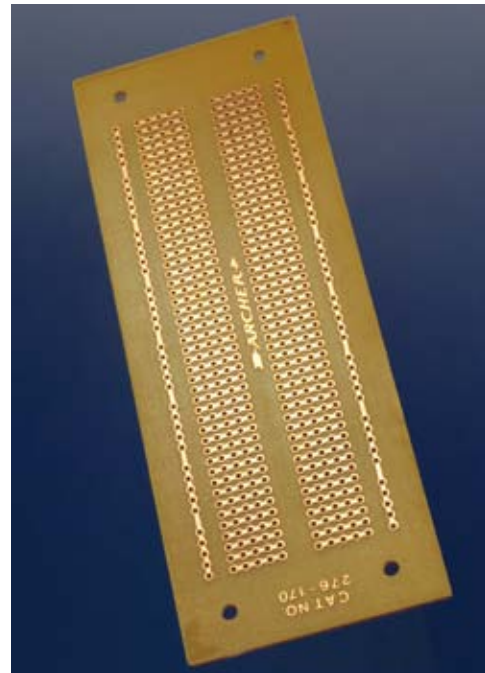

Figure 3-72. Perforated board etched with copper in variants of a breadboard layout. This example is appropriate for Experiment 15.
2. Breadboard-style wiring. Use perforated board that is printed with copper traces in exactly the same pattern as the conductors inside a breadboard. Once your circuit works on the breadboard, you move the components over to the perfboard one by one, maintaining their exact same positions relative to each other. You solder the “legs” of the components to the copper traces, which complete the circuit. Then you trim off the surplus wire. The advantage of this procedure is that it's quick, requires very little planning, and minimizes the possibility for errors. The disadvantage is that it tends to waste space. A cheap example is shown in Figure 3-72.